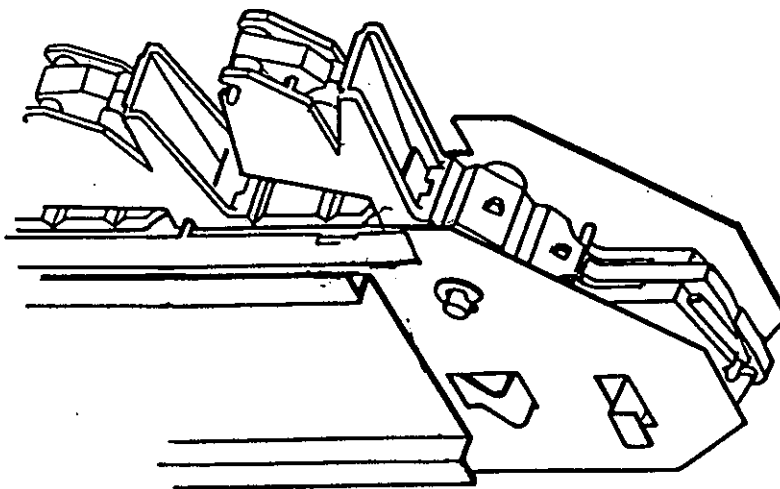

FIGURE 26
Continue pulling the chain until three (3) complete revolutions have been made. With the detent spring in the detent position, the leading chain segment will be in the position shown if the timing is correct. (Fig. 26).